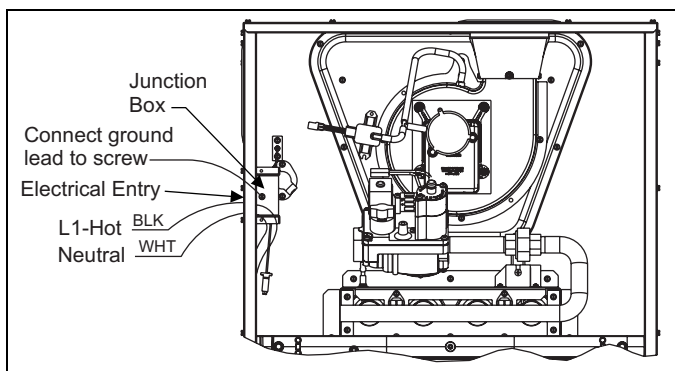

FIGURE 18: Electrical Wiring
2. Remove the screws retaining the wiring box cover. Route the power wiring through the opening in the unit into the junction box with a conduit connector or other proper connection. In the junction box there will be 3 wires, a Black Wire, a White Wire. Connect the power supply as shown on the unit-wiring label on the inside of the blower compartment door or the wiring schematic in this section. The black furnace lead must be connected to the L1 (hot) wire from the power supply. The white furnace screw must be connected to neutral. Connect the power supply ground to the green screw (equipment ground) An alternate wiring method is to use a field provided 2" (5.1 cm) x 4" (10.2 cm) box and cover on the outside of the furnace. Route the furnace leads into the box using a protective bushing where the wires pass through the furnace panel. After making the wiring connections replace the wiring box cover and screws. Refer to Figure 18.
3. The furnace's control system requires correct polarity of the power supply and a proper ground connection. Refer to Figure 18.